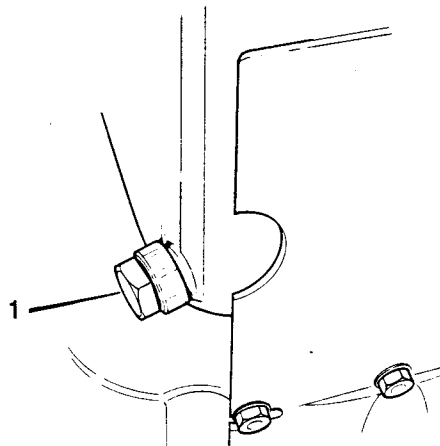

Fig B6.2
- (1) Refer to Fig B6.2. Place a container under the sump drain plug (1). The container must be capable of holding five litres of old oil.